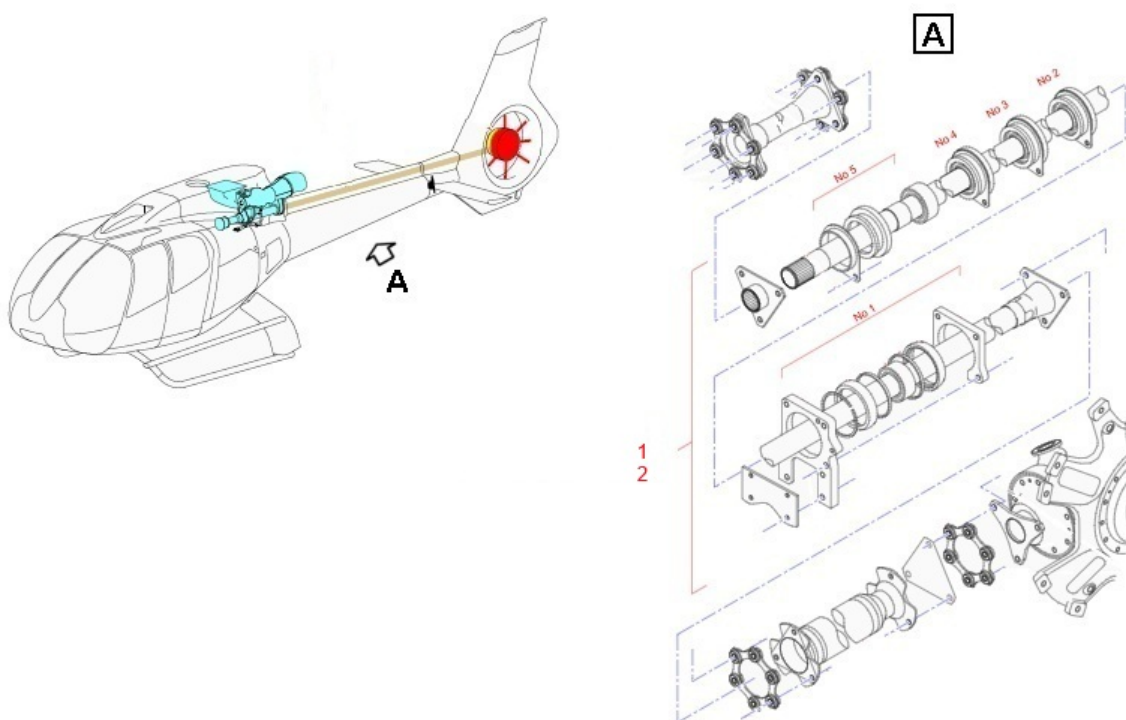

Figure 1
- 4.1. Remove the center shaft assembly (1) (Figure 1). Refer to AMM 65-11-00.4-3.